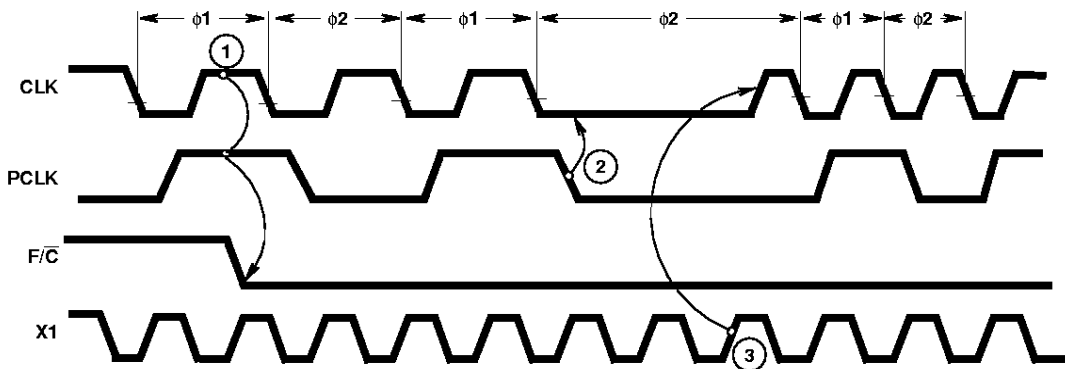

FIGURE 1A. F/\overline{C} SWITCHED FROM HIGH (USING EFI INPUT) TO LOW (USING THE CRYSTAL INPUT X1)
- A) F/\overline{C} switched from high (using EFI input) to low (using the crystal input X1) - see Figure 1A).